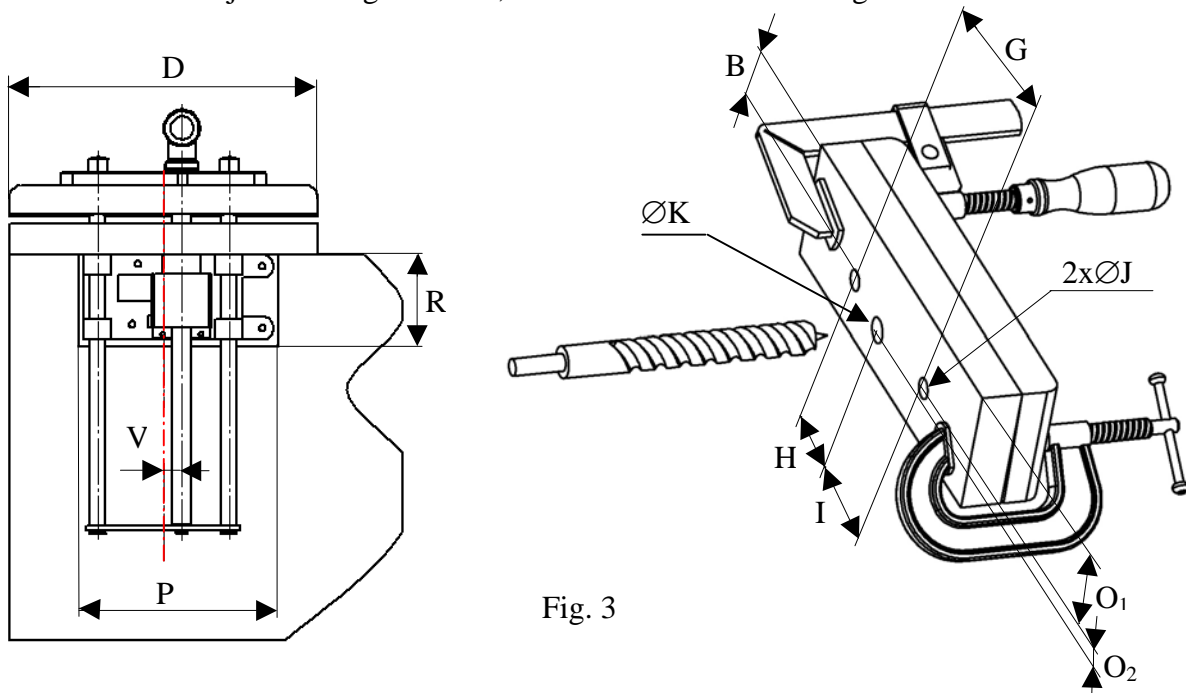

Fig. 3
It is important to note that vice HVQ516 is not axially symmetrical. This must be taken into account when measuring and making openings “ $\varnothing J$ ” and “ $\varnothing K$ ” at distances “ O_1 ”, “ O_2 ”, “ G ”, “ H ”, “ I ” see **Tab. 1**. Now measure out the openings for the spindle (3) and guide rods (6) onto the front and rear additional jaw, and bench collar, if applicable. To make work easier it is possible to drill the front and rear jaws together by clamping them using a C-shaped brace or clamp – see Fig. 3.
Preparation of spacer according to dimensions **E**, **P** and **R** – see Fig. 3 and Tab. 2